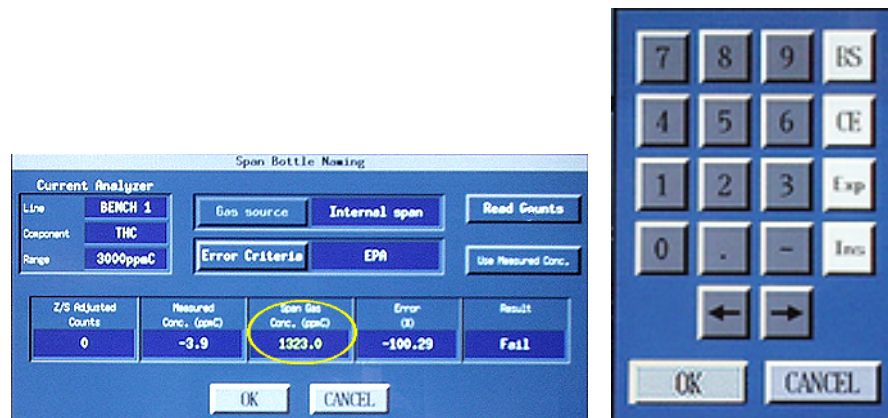

Figure 11
- 115 Return to the MCU. On the “Span bottle naming” menu, click in the field for “Span Gas Conc. (PPM)” and use the on-screen keypad to enter the “Named Concentration” from the tag on the new gas bottle in Step 114. See the circle in Figure 11. If the gas is HC, enter the value from the tag multiplied by three.
On the keypad, click "OK." See Figure 11.